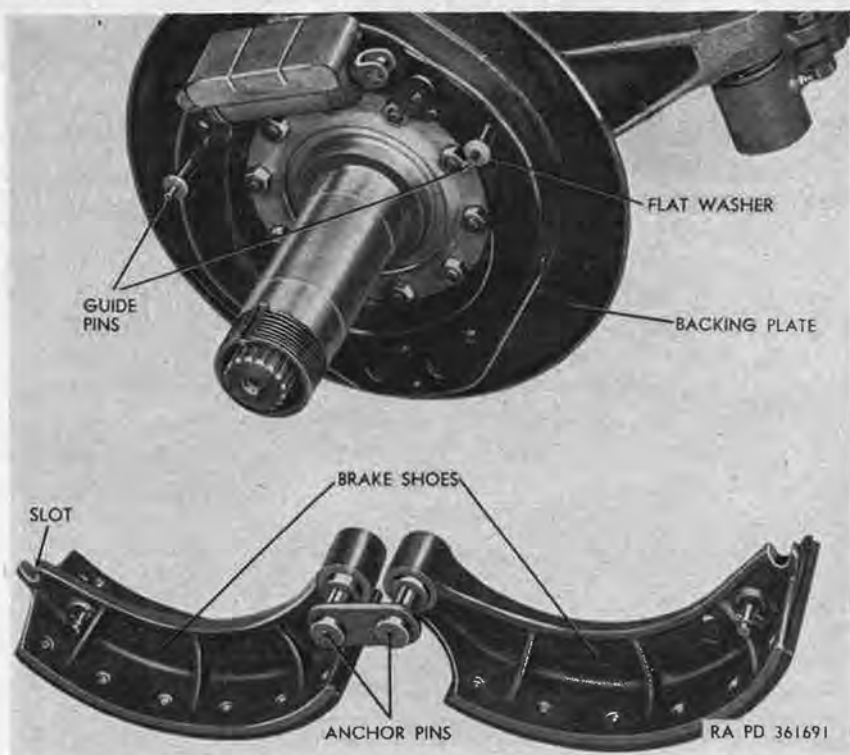

Figure 246. Brake shoes and anchor pins removed from backing plate.
- (5) Remove "C" washer securing front brake shoe to guide pin (fig. 246) attached to backing plate assembly, using pliers. Repeat this operation at rear shoe.
- (6) Remove anchor pin locknuts (fig. 243) at back side of backing plate assembly, and pull brake shoes (fig. 246) and anchor pins from front side of backing plate.
- (7) Pull anchor pins from bore at lower end of brake shoes.
- (1) Install anchor pins (fig. 246) with anchor pin plate in bore at lower end of brake shoes. Turn anchor pins so that punch marks, which indicate high side of anchor pin cams, are toward each other.
- (2) Making sure that flat washers (fig. 246) are in place on both guide pins, position brake shoes on guide pins with anchor pins inserted in holes at bottom of backing plate. Make sure that wheel-cylinder push rods engage slots in upper ends of brake shoes, and install "C" washers on guide pins.